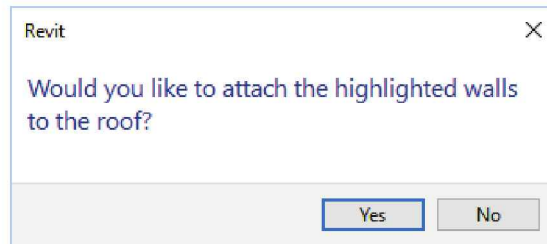

FIGURE 6-1.6 Prompt
20. Click **NO** when prompted to attach the highlighted walls to the roof (Figure 6-1.6).
28. Click **NO** when prompted to attach the highlighted walls to the roof (Figure 6-1.6).
47. Click **NO** when prompted to attach the highlighted walls to the roof (Figure 6-1.6).